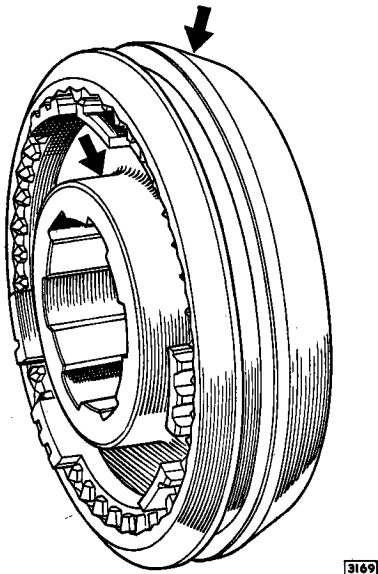

Fig. 11. Assembly of synchro hub.
- (i) The wide boss of the hub on the opposite side to the wide chamfer end of the sleeve (see Fig. 11).